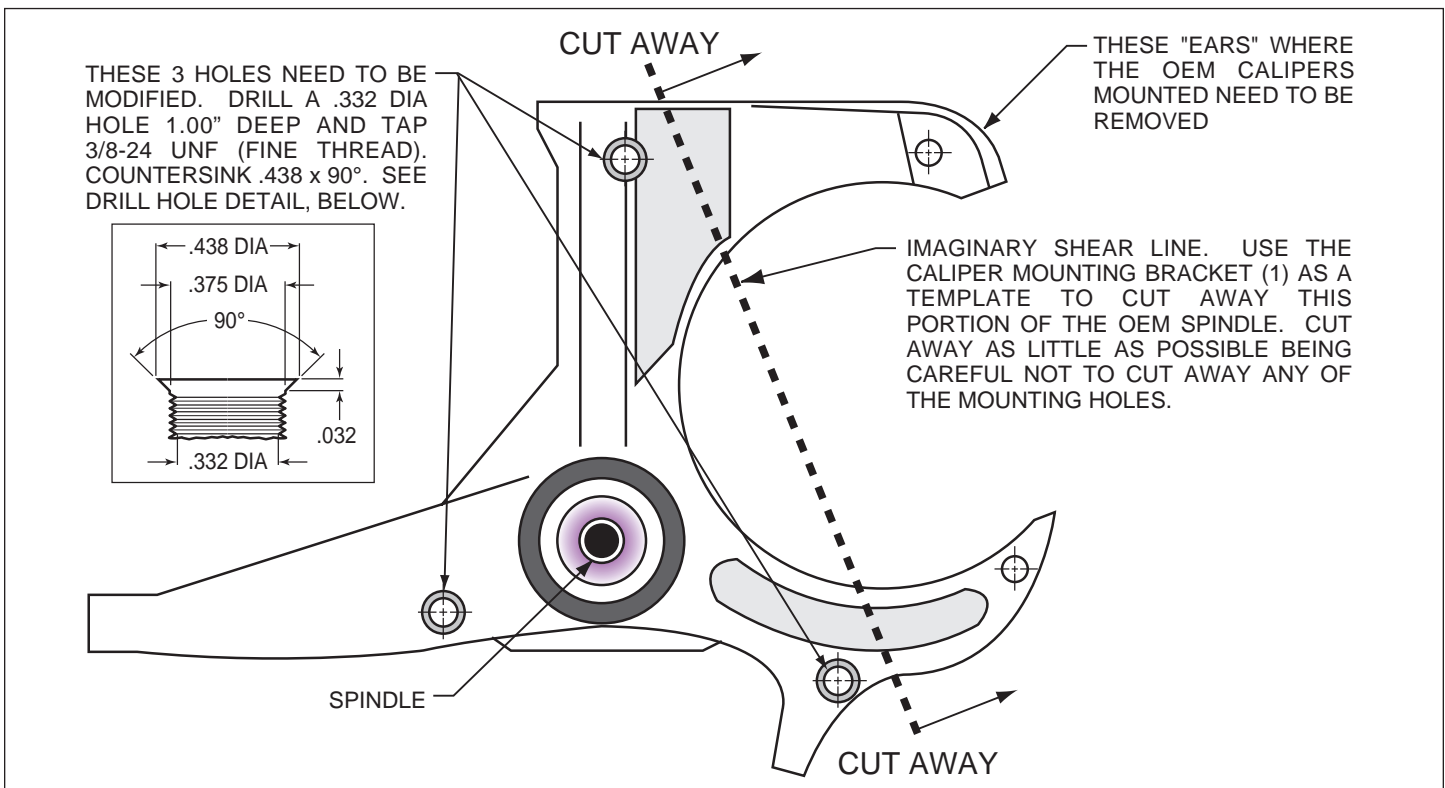

Figure 1. Steering Arm / Spindle Modifications
These modifications should be performed by a qualified machinist. Refer to Figure 1 as necessary (numbers in parenthesis refer to the parts list on page five). Only one view of the steering arm/spindle is shown, but the modifications need to be performed on both steering arm/spindles.
- Mount the adapter/rotor assembly (10/11) to the hub (7) using bolts (13) (finger tight), as shown in Figure 1. Using an alternating sequence, remove bolts one at a time, apply red *Loctite*® 271 to the threads, and torque to 45 ft-lb.
- Pack the small outer bearing cone (14) with high temperature disc brake bearing grease. Lightly coat the spindle bearing surfaces with bearing grease. Slide the hub/rotor assembly (7 and 11) with outer bearing cone (14) onto the spindle. Secure using spindle washer (15), existing adjusting nut and nut locking device. **NOTE:** Because of a tolerance variation among spindles, it may be necessary to install a shim washer (16) between the spindle washer (15) and the spindle nut if the spindle nut will not tighten down all the way. There are four supplied in the kit for your convenience.